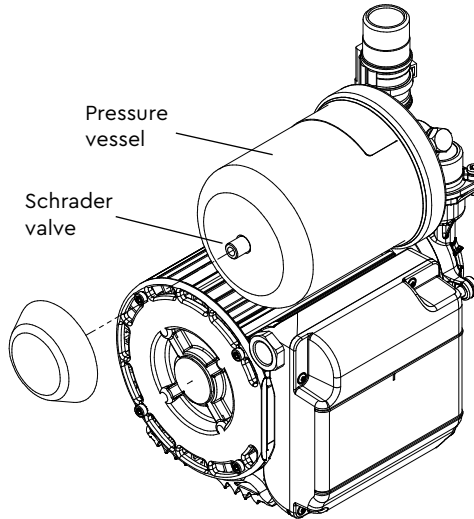

Figure 18
4. Check air charge at Schrader valve (Figure 18) using a tyre pressure gauge.